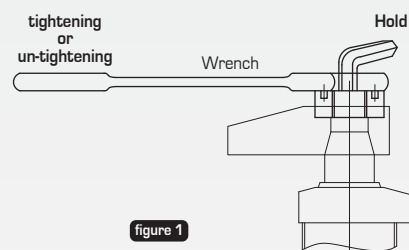

figure 1
- restrain the rod using a hex wrench (see **figure 1**)